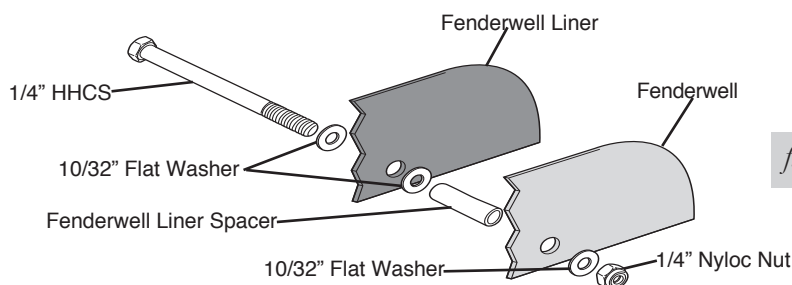

fig. 19
- Place the spacer between the fenderwell liner and the fenderwell at the center hole in the fenderwell liner (the hole nearest the air spring). Attach using the 1/4" Hex Head Cap Screw (HHCS), the 10/32" flat washers, and 1/4" nyloc nut provided (fig. 19).
Fasten the HHCS with the washer and nut behind the fenderwell (fig. 19). Tighten securely.